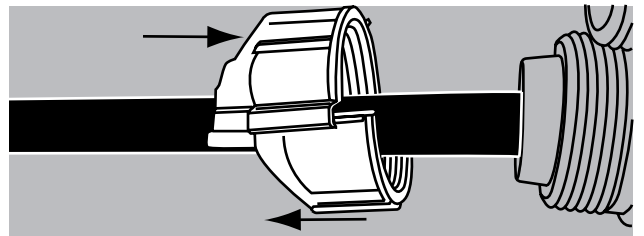

Figure 11
- Select the correct size split Locking Cap, (larger one fits the express port, smaller one the drop port). Fit over the cable and lock the two halves together. (Figure 11)
nOTe: For the initial cable sealing process, follow figures 11 and 12.